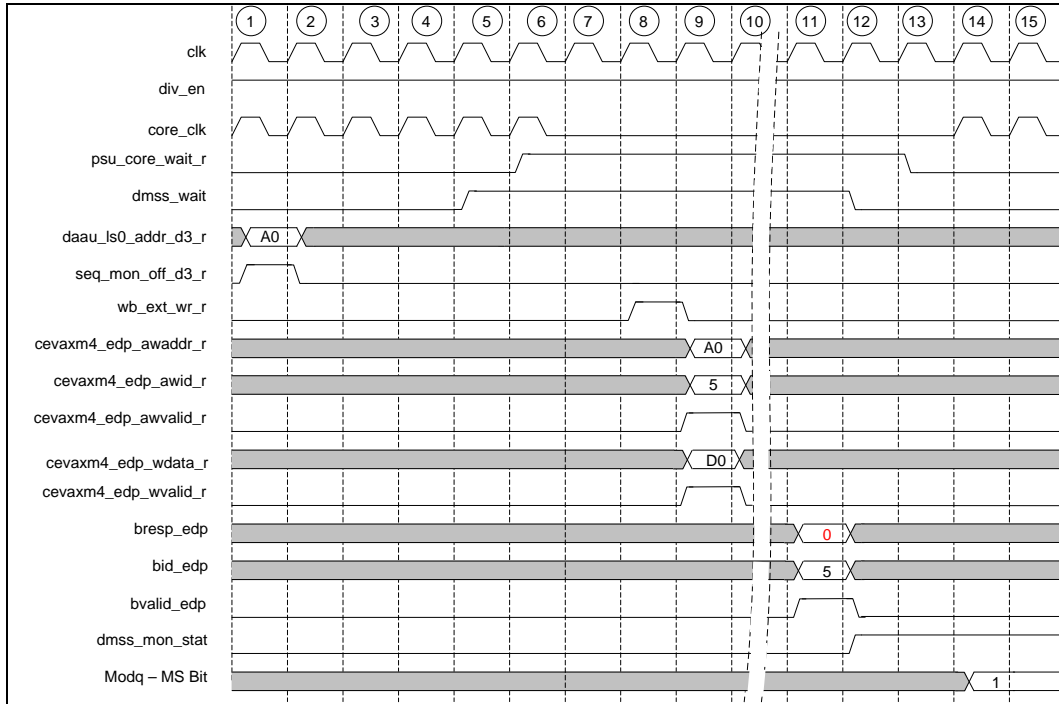

Figure 5-3: Exclusive Write Succeeded (EXOK Response) Timing Diagram
4. If no other master has written to that location between the read and write accesses, then the AXI slave returns with EXOKAY and the memory location is updated. The MS bit in the **MODQ** register is cleared, as shown in Figure 5-3.